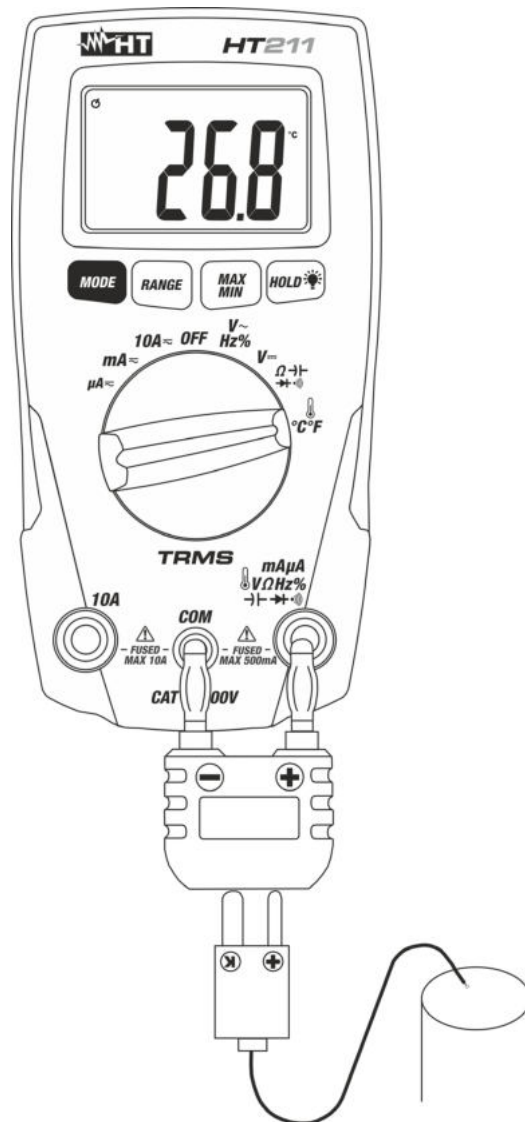

Fig. 8: Using the instrument for Temperature measurement
3. Insert the standard adapter accessory into $\text{mA}\mu\text{A}\text{V}\Omega\text{Hz}\% \rightarrow \text{---} \rightarrow \text{---} \rightarrow \text{---}$ jack (+ polarity), and **COM** jack (- polarity) (see Fig. 8)